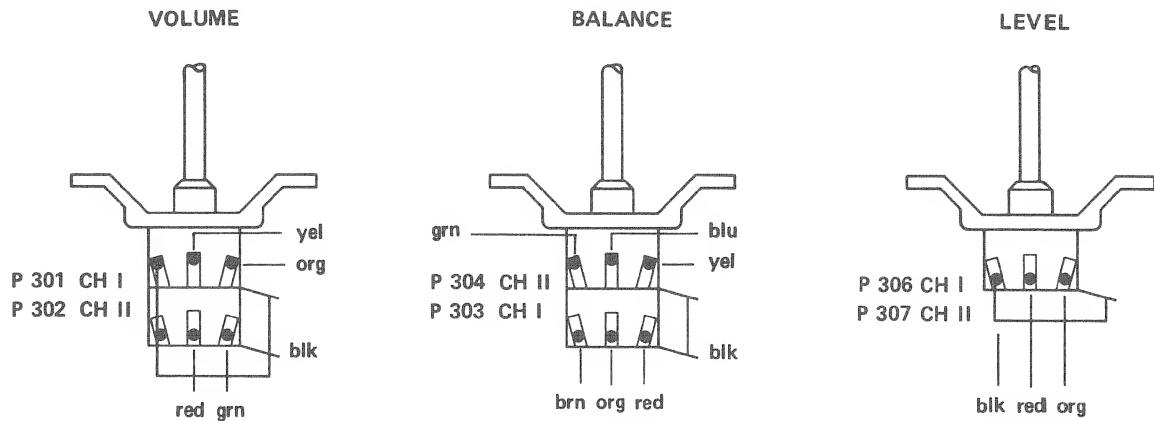

Fig. 3.11–15
- Unscrew fasteners from below (fig. 3.11 –15)